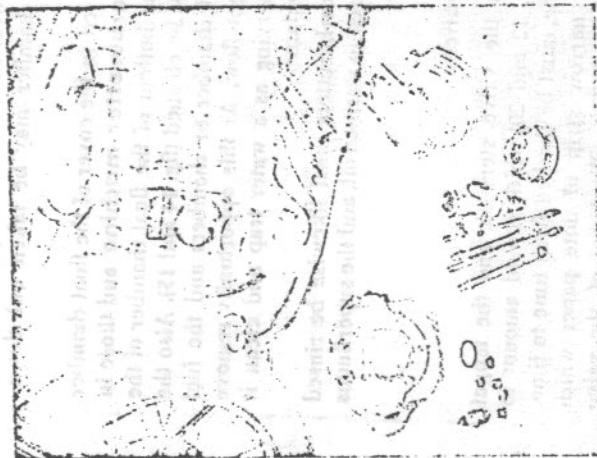

Fig. 13
During the running-in period frequent change of oil for the engine is emphatically recommended. The oil must be drained completely from the crankcase every 300 miles, the oil filter 17 (fig. 13) must be taken out by unscrewing the six nuts 18 and removing the cover 19, and the casing must be rinsed with rinsing oil. The oil filter must by no means be cleaned with petrol or kerosine.
The camshaft 1 (fig. 13) supported in plain bearings 2 and 3 above the crankshaft is driven from the latter by the sprockets 4 and 5 which are connected by a silent roller chain. The camshaft also drives through sprockets 6 and 7 the magneto for lighting and ignition by means of a silent chain.
The air breather of the crankcase consists of a rotary slide valve 8 connected by set studs with the sprocket wheel 6 keyed on to the steering wheel 1, the rotary slide valve being supported by the cover 9 of the transmission casing (fig. 13). The air which is compressed in the crankcase on the down stroke of the pistons escapes through the rotary slide valve 8, the cover 9, and through a connection 10 to a piping 11 located outside which conveys the air to the open. In this manner a slight back pressure is always produced in the crankcase which effectively prevents any escape of oil at the joints of the casing.
The oil is pressed into the rising pipe 20 through a bore in the cover 25 and enters the oil distribution pipe 12 (figs. 13 and 20) and from there through the vertical oil pipes 13 and the finely bored oil jets 14 to the bushes 15 and 16 (fig. 13) to lubricate the crankshaft roller bearings. Part of the oil enters the distributing grooves of the bushes, from where it is then con-
b) R 12 two-carburettor machine. For the R 12 two carburettor touring machine two Amal single slide valve pump carburettors are employed the inner structure of which is shown by fig. 13.
With the yearly overhaul this cleaning must be attended to under all circumstances. When replacing care must be taken that the recesses of the ball bearing bushes 13 and 16 coincide with the oil jets 14 of the rising piping 13, as otherwise the oil supply to the bearings is interrupted (fig. 13).